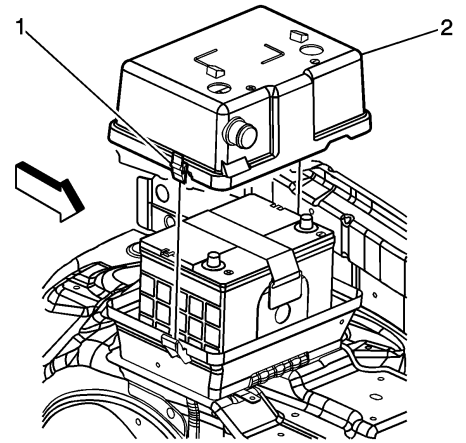

Fig. 4 Upper battery box removal
11. Press locking tabs (1) inward, and remove upper battery box (2) from lower battery box, **Fig. 4**.
5. Install upper battery box (2) over battery, and engage locking tabs (1) into lower battery box, **Fig. 4**.